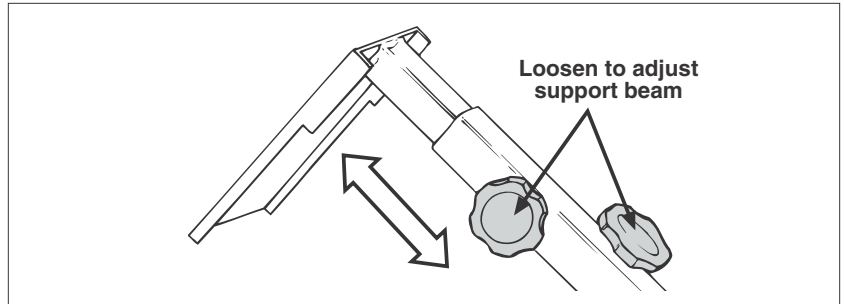

Figure 2-16. Pedestal Installation
2. Loosen both height adjustment knobs on the telescoping support beam (Figure 2-16).